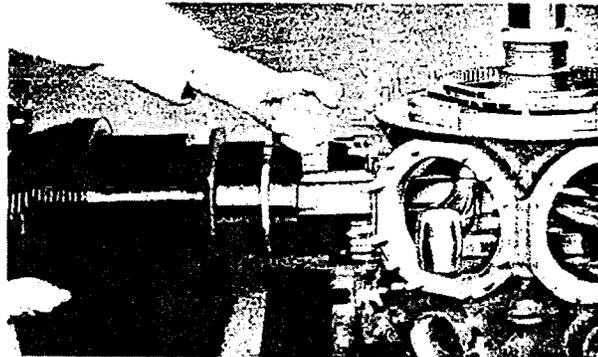

Figure 39 - Installing Cylinder
e. Turn crankshaft to bring master rod to top center and slide cylinder carefully and squarely into place using Ring Compressor (Tool No. T-14000). Refer to Figure 39.